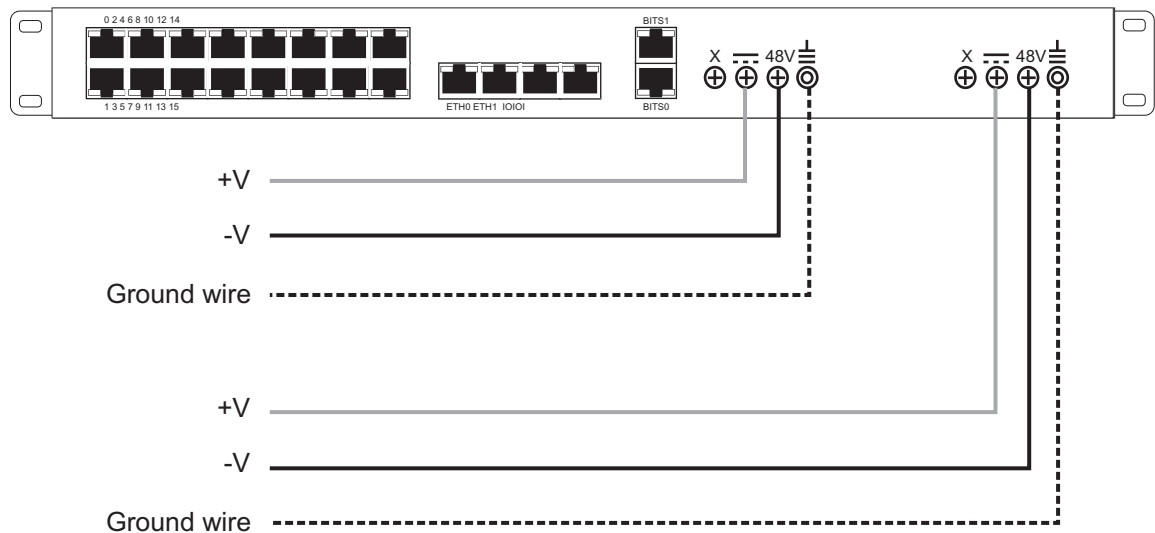

Figure 2.34 DC wiring diagram
1. Connect a ground wire to the ground lug located at the rear of the TMP6400-TMS, as shown in figure 2.34 on page 43.